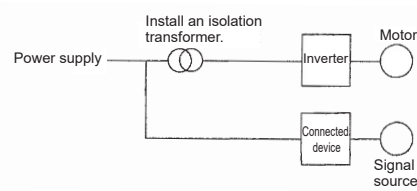

Fig. App 2.20 Installing an isolation transformer
- (b) Install an isolation transformer on the inverter input side. (Refer to Fig. App 2.20.)